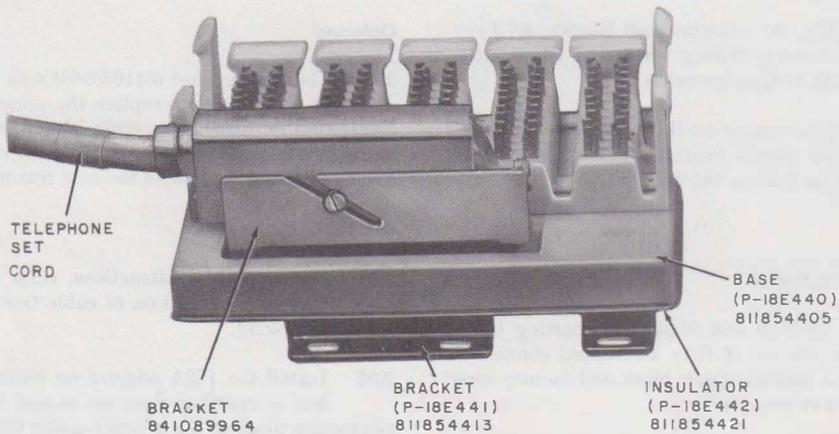

Fig. 2—66E4-25 Connecting Block
2.03 The 66E4-25 connecting block (Fig. 2) is equipped with a molded plastic base without cable trough or cover; it incorporates a mounting bracket which allows mounting in commercial type underfloor duct service fittings.